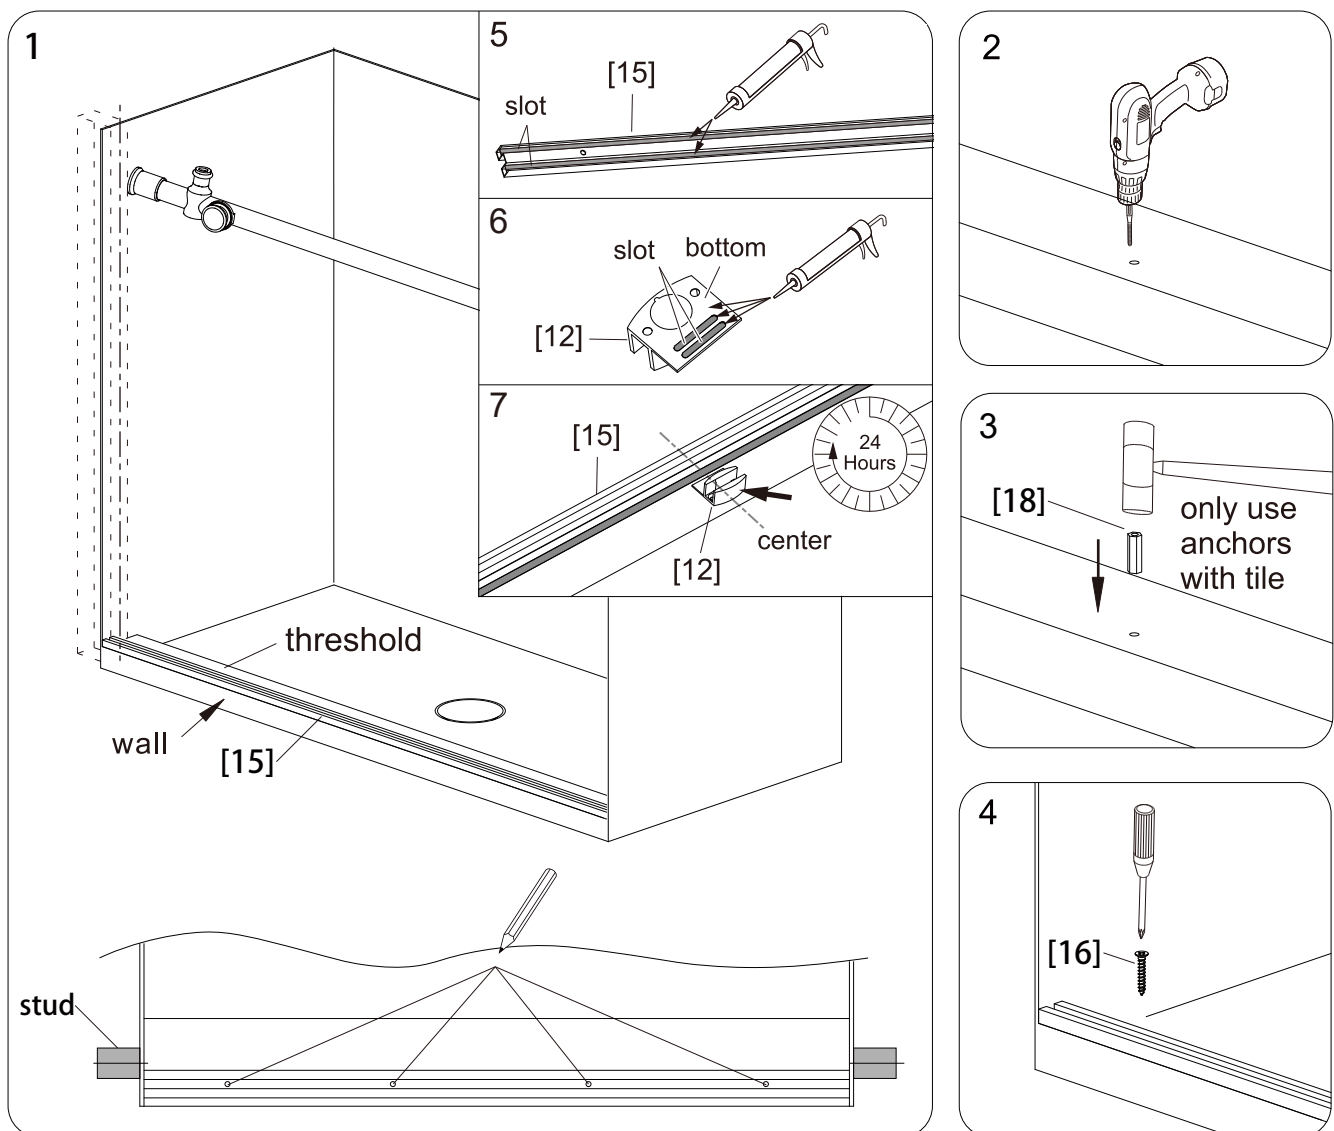

Fig 4a
1. If this shower door is intended to be installed with **Bottom Rail [15]** flushing with the outside wall, slightly position the **Bottom Rail [15]** flushing with the outside wall. If this shower door is intended to be installed with **Bottom Rail [15]** behind the outside wall, slightly position the **Bottom Rail [15]** with outer side of it aligns with the marked lines on the side wall. Mark the screw holes through the **Bottom Rail [15]**. (Fig 4a.1)
2. Remove the **Bottom Rail [15]** and drill a **1/8"** hole at each marked location if drilling into acrylic or wood material. Drill a **7/32"** hole if drilling into tile material and insert the **Small Anchors [18]**. (Fig 4a.2, Fig 4a.3)
3. Secure the **Bottom Rail [15]** with **Screws [16]**. Then, skip to Step 5. (Fig 4a.4)
4. Apply a good quality of Silicone Sealant to the slots of **Bottom Rail [15]** and place it to the marked threshold. (Fig 4a.1, Fig 4a.5)
5. Apply a good quality of Silicone Sealant to the slots and bottom surface of **Guide Block [12]** and place it close to the center of back surface of **Bottom Rail [15]** facing to the shower room. Allow 24 hours for the silicone to cure before next step. (Fig 4a.6, Fig 4a.7)